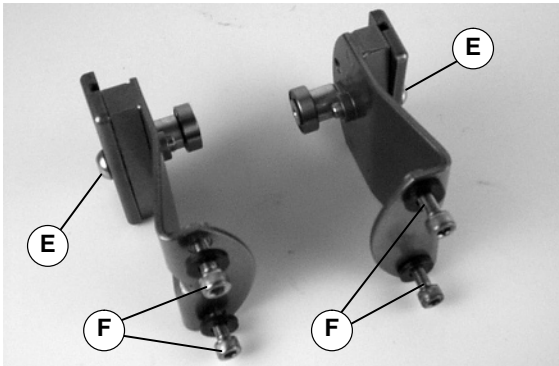

Figure 4
1. Typical Components (Figure 4)